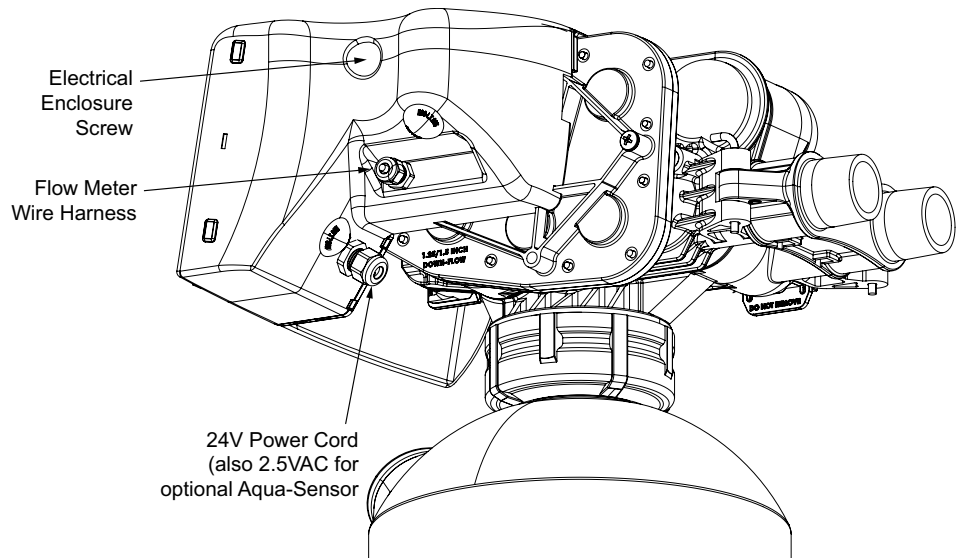
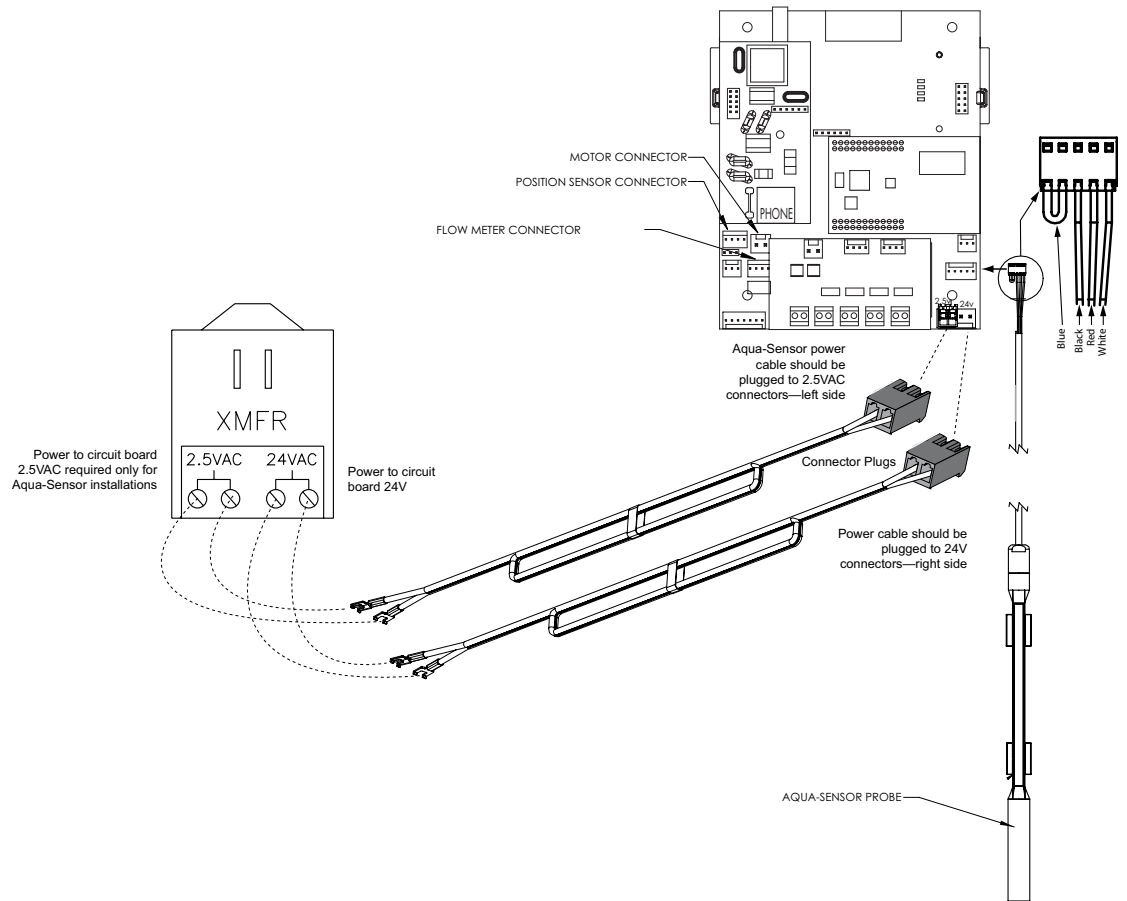

Figure 18. Circuit board connections.
Figure 25. 2.5 VAC Aqua-Sensor® power connection.
The 24V power supply and flow meter wire harness is already connected to the circuit board. If no other circuit board connections are required proceed to the First Time Setup. Refer to the instructions below and Figure 18 to Figure 25 for connecting the Aqua-Sensor probe wire harness to the circuit board.
1. Remove the electrical enclosure from the control valve. First remove the electrical enclosure screw and then gently remove the enclosure from the control. Refer to Figure 18 and below instructions.
11. Plug each power connector to the appropriate pin on the Smart Controller circuit board. See Figure 25.
12. Connect the other end of the power cord, with the spade terminals, to the two 2.5 VAC terminals on the transformer. See Figure 25.
15. Connect the Aqua-Sensor probe wire harness bushing to the circuit board. The Aqua-Sensor probe terminal is labeled "Aqua-Sensor." See Figure 25.